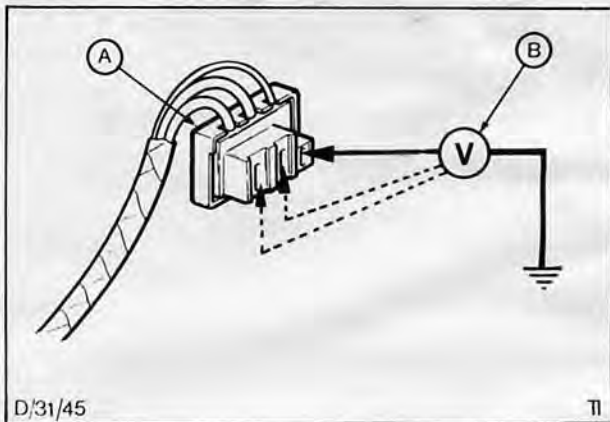

Fig. 33. Checking charging circuit wiring continuity
4. Check charging circuit wiring continuity, Fig. 33.